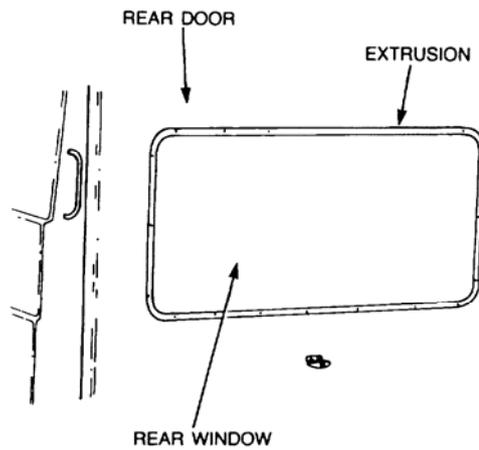

Figure 33 Rear Door Window Removal
- a. Remove the rivets retaining the window extrusion to the rear door (refer Figure 33).